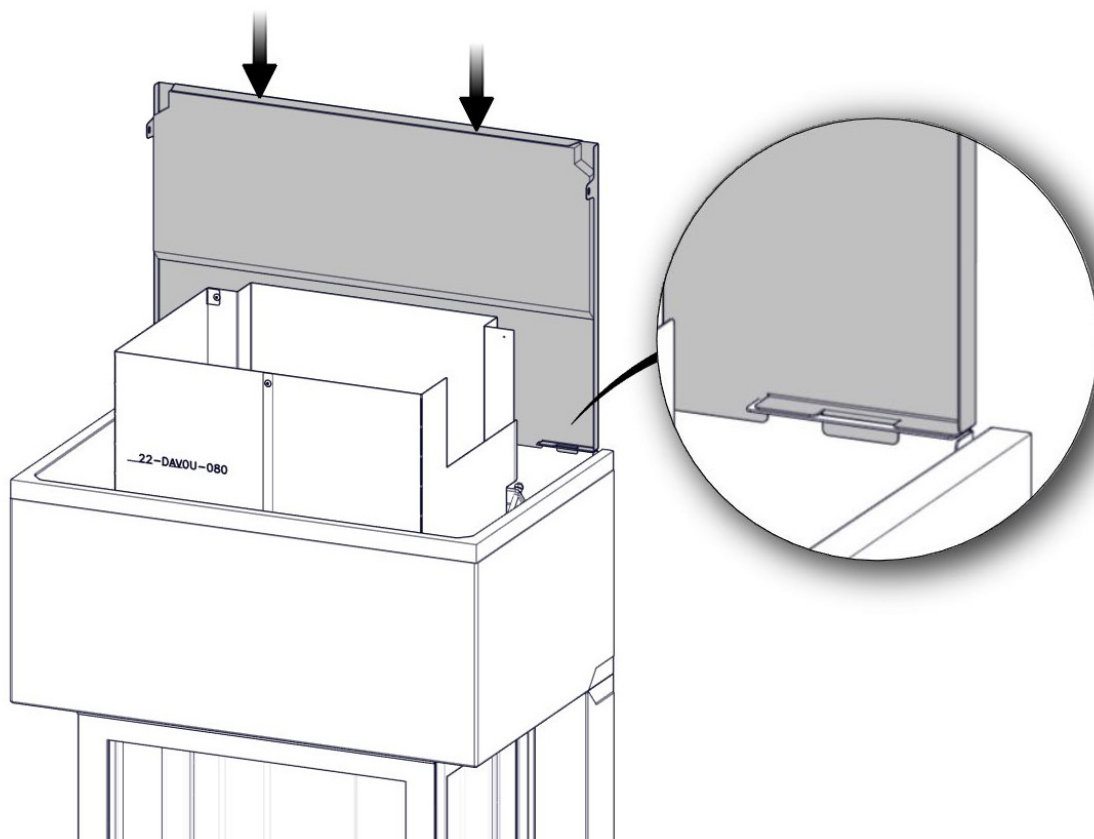

FIG 21
FIG 21 a
**FIG 21 b** Davos U High\_N-29U
**FIG 21 c** Davos U High\_N-29U
FIG 21 d Davos U High\_N-29U